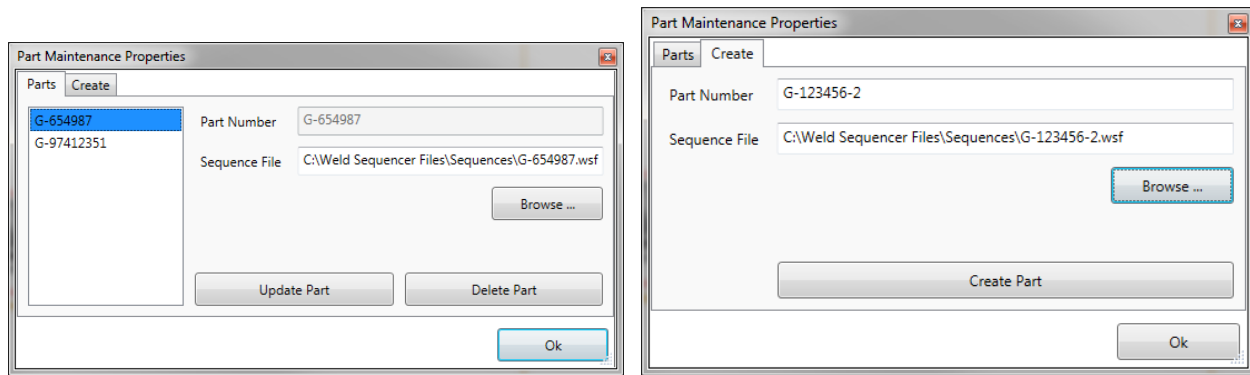

Figure 4.9 Part Maintenance Properties
4. Click Part Maintenance in the top toolbar.	The Part Maintenance Properties window opens (Figure 4.9).
If you need to associate a part number with a different weld sequence file, you can highlight the part number, click the **Browse** button and associate a new file. Click the **Update Part** button to save your change (Figure 4.9).
If you need to remove a part number entry from the Part Lookup table, simply highlight the part and click the **Delete Part** button (Figure 4.9).